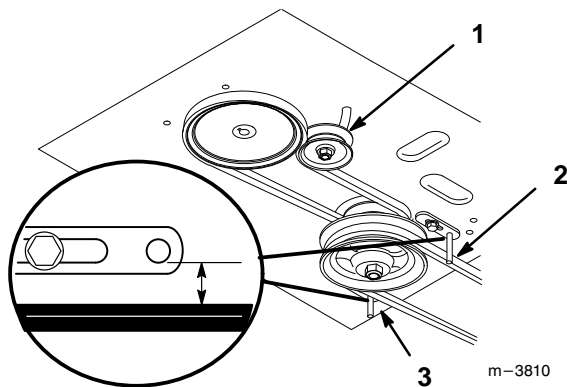

Figure 45
5. Install new belt around engine and drive pulleys (Fig. 45).
6. Slide idler pulley in engine frame to tension traction belt (Fig. 45).
8. Check the belt guides under the engine frame for proper adjustment (Fig. 45). Adjust as necessary. The disengaged belt should not drag or fall off pulley when guides are properly adjusted.